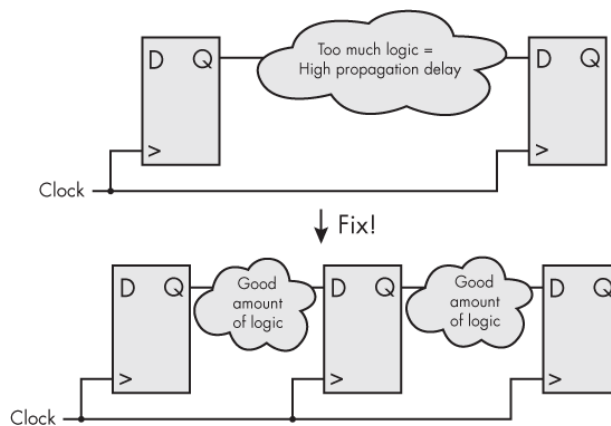

Figure 7-5: Reducing the propagation delay through pipelining
Breaking up your logic into stages, also known as *pipelining*, is the more robust (and often the only) option. If you do less “stuff” between any two flip-flops, the propagation delay will decrease, and it will be easier for your design to meet timing. Figure 7-5 illustrates how this works.
I can't imagine why anyone would write code like this, but it will do for demonstration purposes. The problem arises when we perform some mathematical operations—division, addition, and multiplication—on the value of `r0_Data` ❶. All three of these operations are performed on the same line, inside a synchronous always or process block, which means they must occur within one clock cycle. To do all that math, the output of the 8-bit-wide register `r0_Data` will pass through a bunch of LUTs, then into the inputs of the flip-flops for `o_Data`, all within one clock cycle. This puts us firmly in the upper half of Figure 7-5: the mathematical operations require a lot of logic and will create a considerable propagation delay.